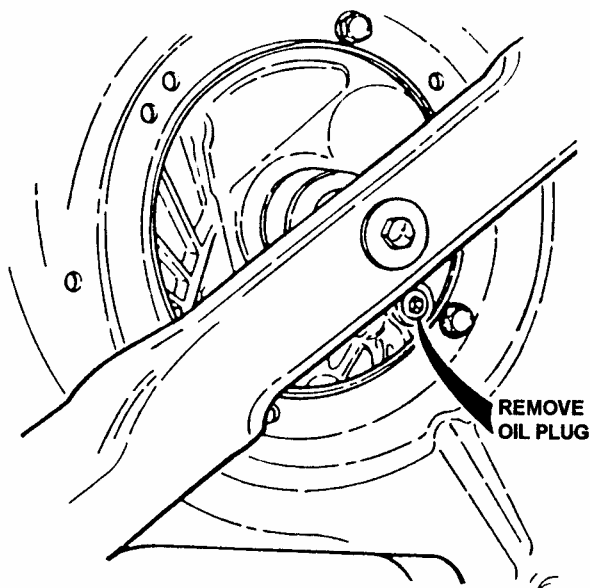

FIGURE 17
3. Tilt mower onto its right side and remove the oil drain plug as shown in Figure 17.